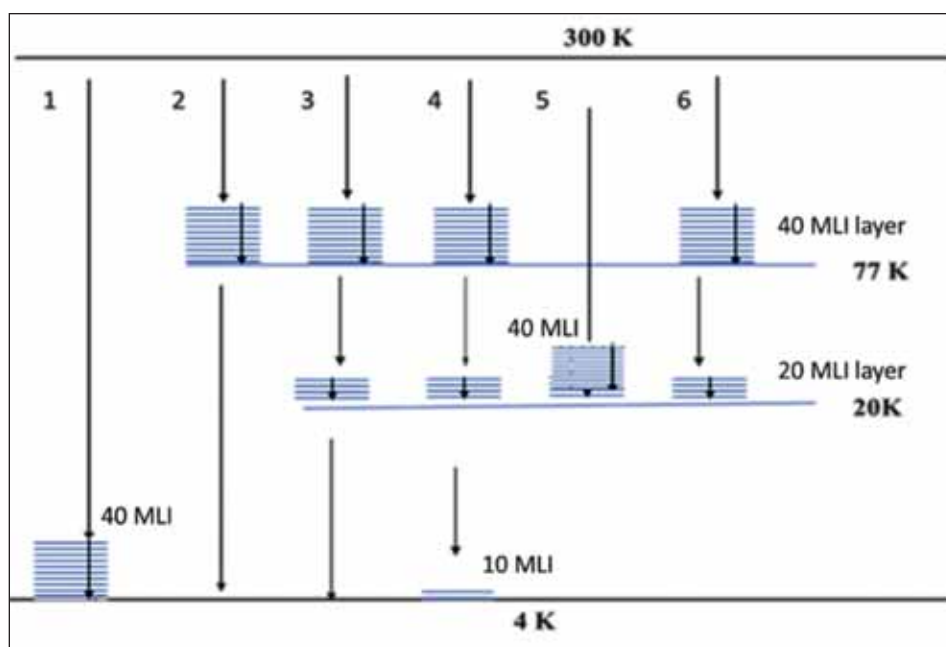

Figure 4. Six typical cases demonstrating MLI systems with various intermediate shields and MLI layers. Credit: Shu, Fesmire, Demko (Technical Note)
Therefore, intermediate temperature (T) shields are important for improving thermal efficiency in real MLI systems. The critical question is how many intermediate T shields are needed and at which T levels they should be allocated. To demonstrate basic principles and typical practice, the six typical configurations are chosen and illustrated in Figure 4. The 77 K level can be LN2 vessels and shields for LHe-LH2 vessels or SC cold mass. 20 K level can be LH2 vessels and shields for SC cold mass, special space device, etc. The 4 K level can be LHe vessel, SC mass or space device.